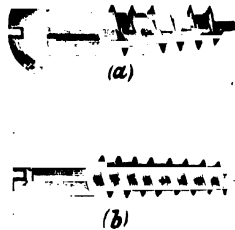

Fig. 109.
**Screws** (Fig. 109) are used for holding pieces of wood together. They are more effective for this purpose than nails. They are specially useful for joining pieces which may afterwards have to be taken apart.